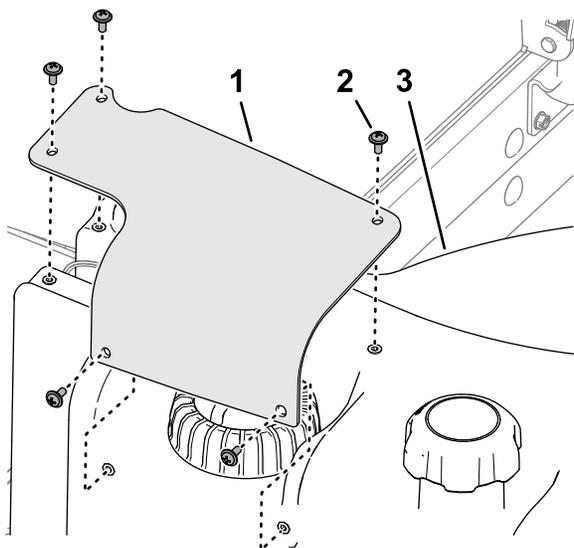

Figure 99
7. Align the holes in the fuel-sender cover with the holes in the fuel tank, and secure the cover to the tank with the 5 Phillips-head screws (Figure 99).